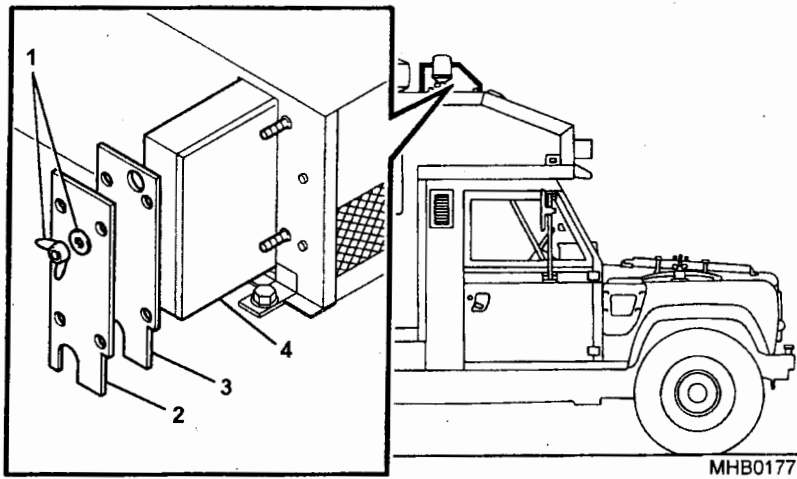

Fig 9 Heater/air intake filter
13.1 Replace the filter. Undo the four wing nuts and washers (Fig 9 (1)) holding the cover plate (2) and gasket (3) and remove the filter (4).